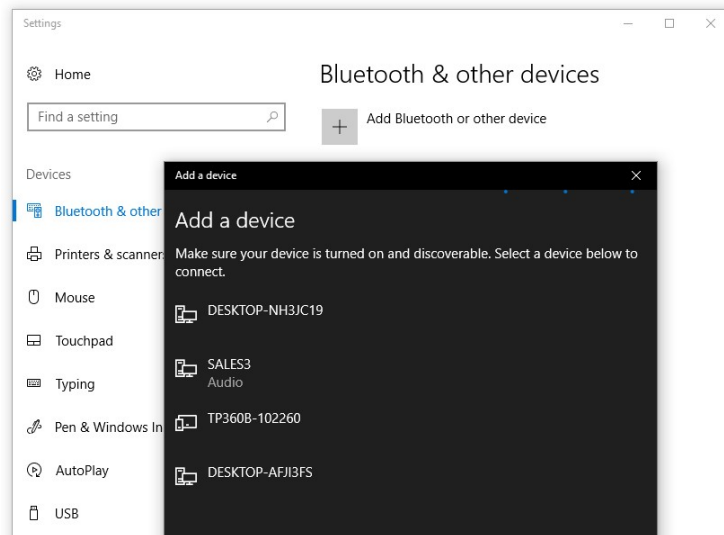

Figure 8-2: Add Device Dialogue Box
- Click on Bluetooth (Mice, keyboards, pens, or other kinds of Bluetooth devices) Refer to Figure 8-2.